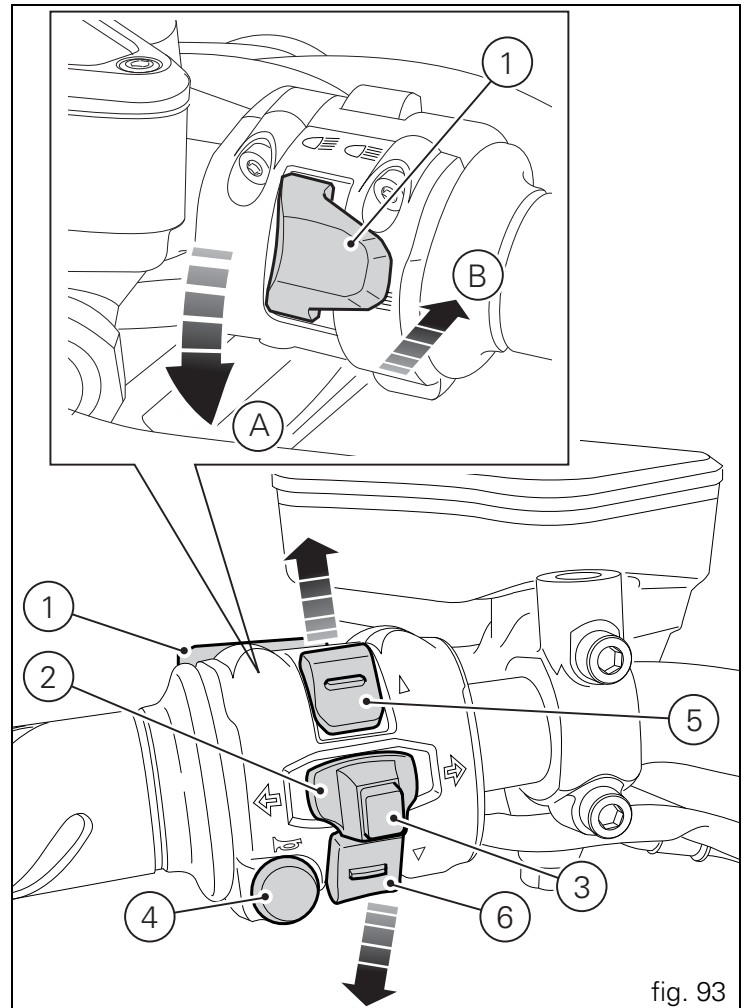

fig. 93
LH switch (fig. 93)
- 1) Dip switch, light dip switch, two positions (fig. 93):
- 2) Button  = three-position turn indicator (fig. 93):